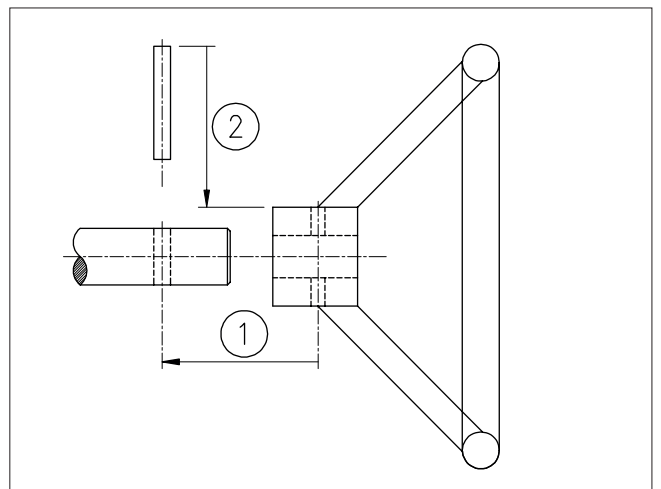

Fig. 1 Mounting handwheel
2. It is recommended to mount a handwheel on the input shaft before assembling the gearbox to the valve, Figure 1.